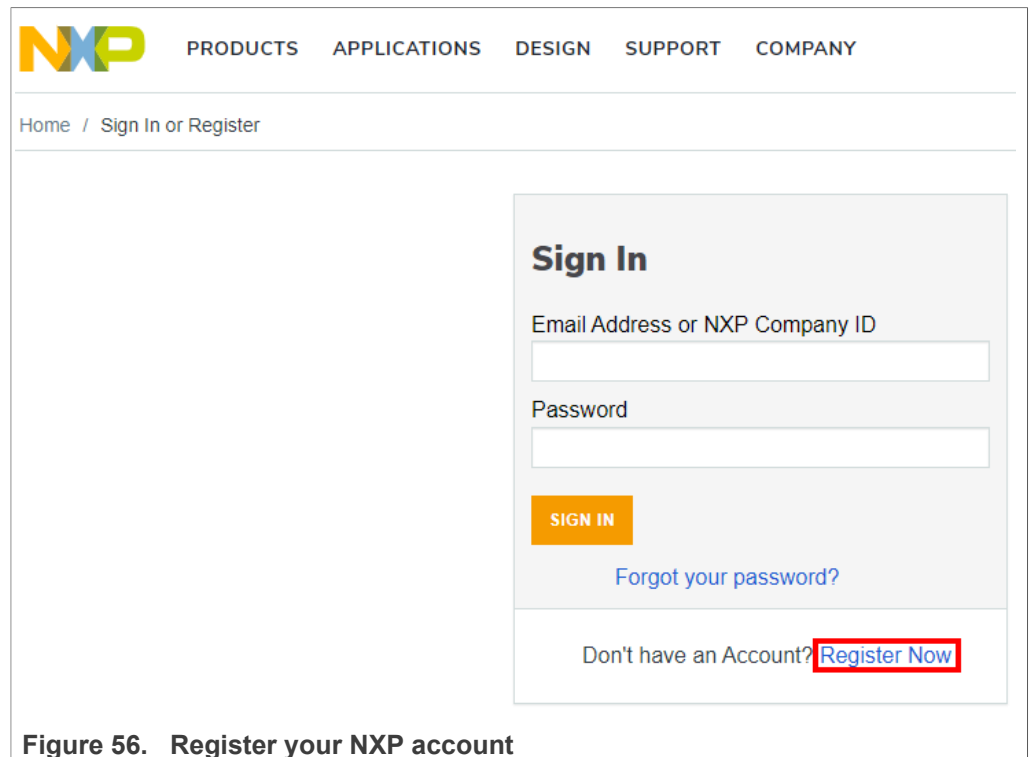

Figure 56. Register your NXP account
2. You will be asked to sign-in with your account at the NXP website. If you do not have an account, click on **Register Now** as shown in Figure 56: